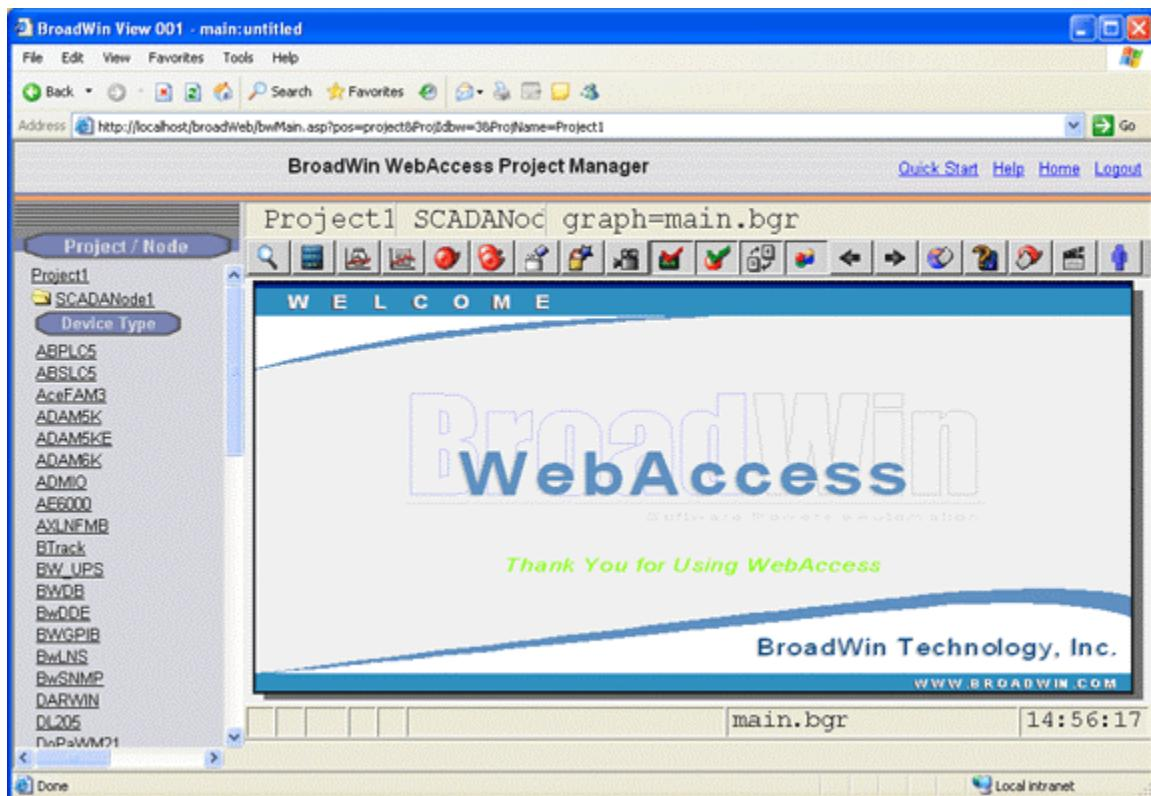

Figure 3-16 - default MAIN Graphic Display
15. The default Main Graphic Display appears (fig. 3-16). You can edit or create a new Main.bgr later.